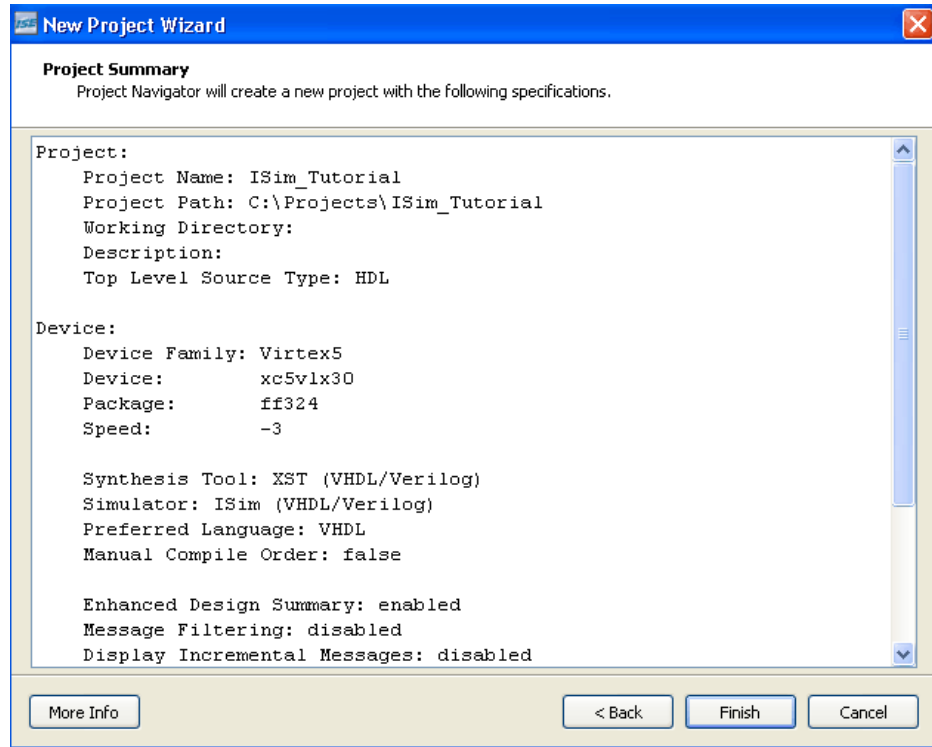

Figure 2-4: Project Summary
8. Review the Project Summary page and make sure that the settings match those shown in Figure 2-4.